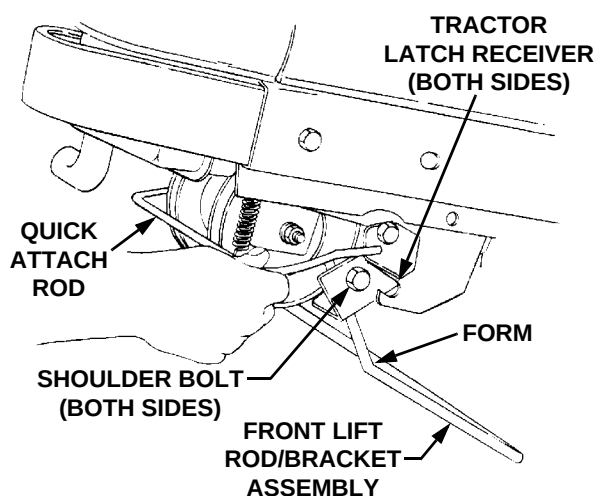

Figure 31
6. Refer to Figure 31 to ensure the correct orientation of the front lift rod/bracket assembly [the form (bend) in sides of rod point downward]. From the front of the tractor, push downward and hold the tractor quick-attach rod. Slide the shoulder bolts on each side of the front lift rod/bracket assembly fully into the left and right tractor latch receivers.